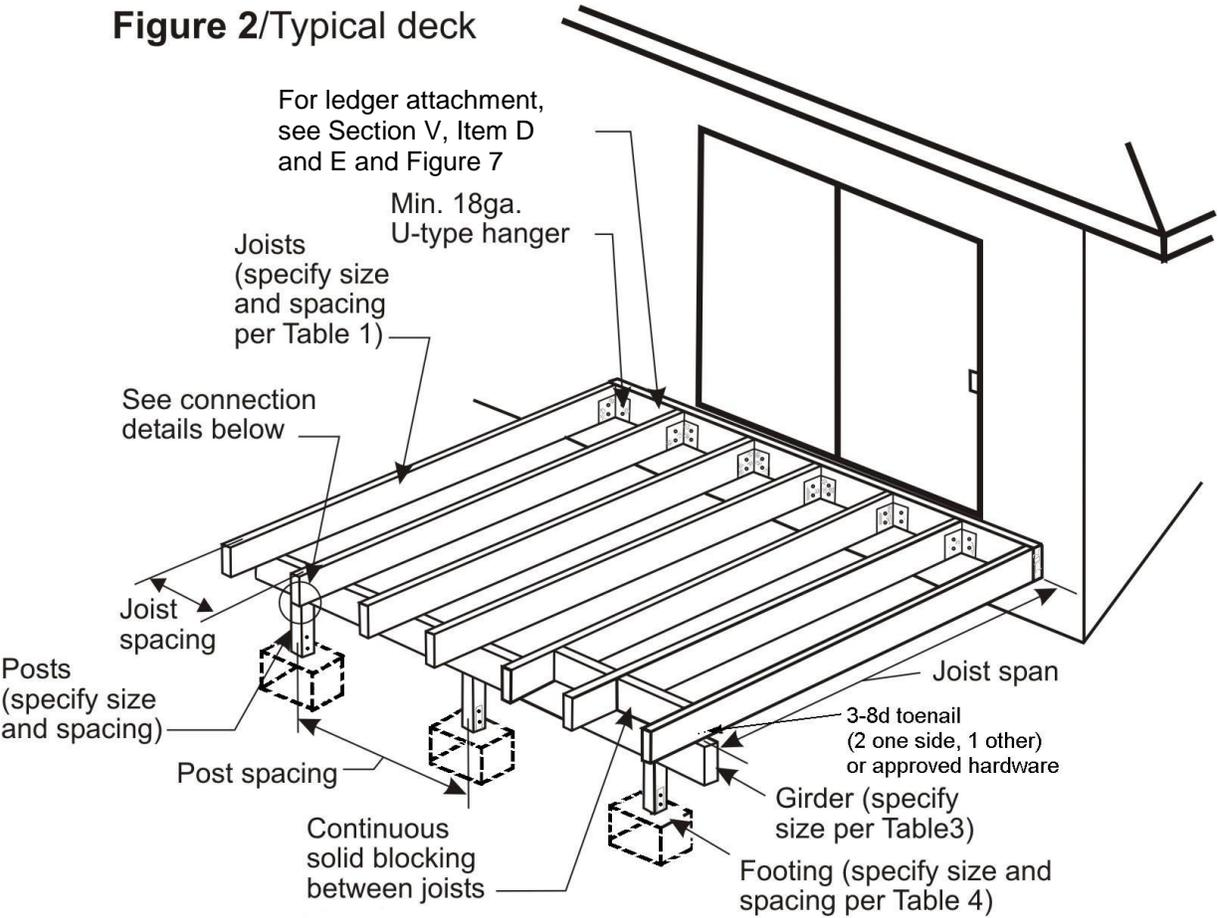

Figure 3/Post-to-girder connection
- 1. Posts must be anchored at the lower end and must be braced at the upper end using either of the details shown in Figure 3. Decorative-type bracing may be substituted if the same resistance to lateral loading is provided.